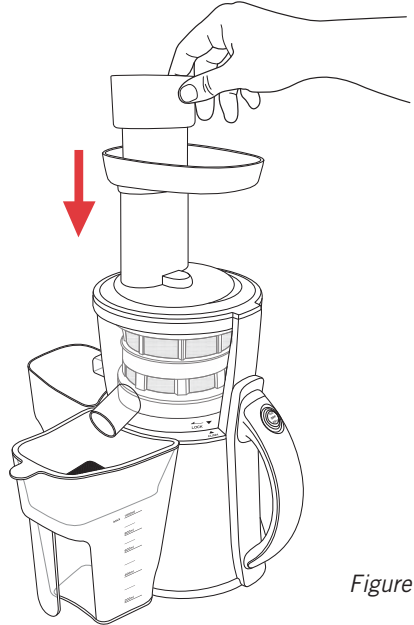

Figure 6
6. Take the food pusher and slide down into the feed chute – figure 6.